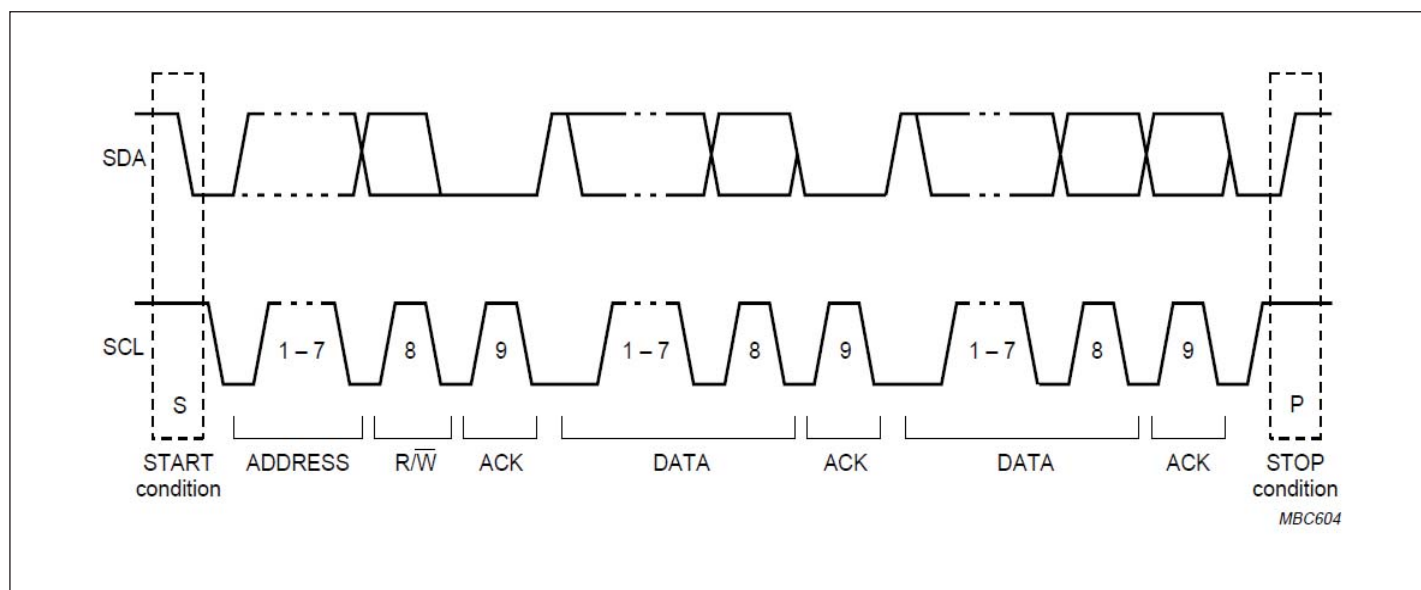

Figure 1: A Complete Data Transfer
Data transfers follow the format shown in Fig.1. After the START condition (S), a slave address is sent. This address is 7 bits long followed by an eighth bit which is a data direction bit (R/W) - a 'zero' indicates a transmission (WRITE), a 'one' indicates a request for data (READ). A data transfer is always terminated by a STOP condition (P) generated by the master. However, if a master still wishes to communicate on the bus, it can generate a repeated START condition (Sr) and address another slave without first generating a STOP condition. Various combinations of read/write formats are then possible within such a transfer.